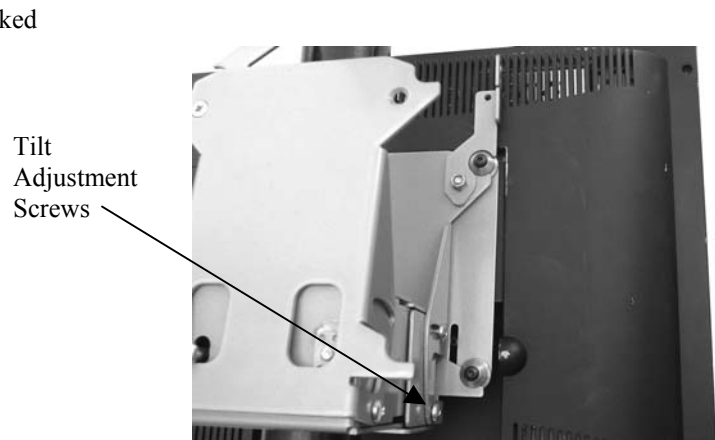

Figure 7
4. Adjust tilt by loosening (slightly) tilt adjustment screws (see Figure 7) on each side of pole-mounting bracket, adjust to desired angle, and tighten tilt adjustment screws.